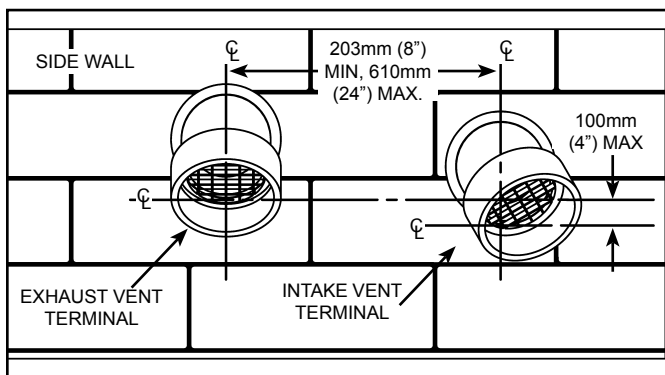

Figure 20
Important: When terminating the vent on a side wall, the following specifications pertaining to terminal location must be followed (see Figure 20).
4. To avoid exhaust recirculation, the air intake terminal may be rotated away from the exhaust vent terminal (see Figure 20).